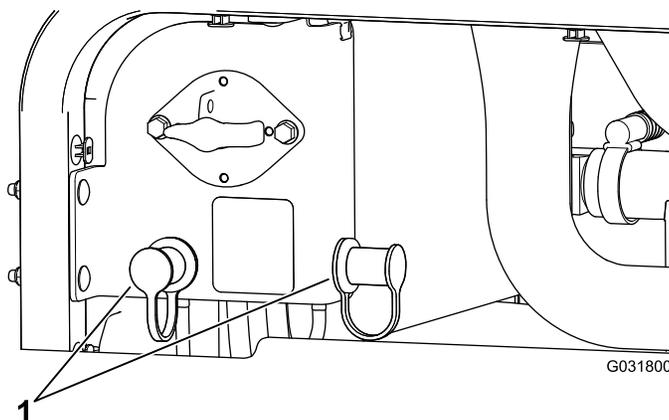

Figure 114
3. Remove the covers from the jump posts (Figure 114).
- Remove the covers from the jump posts (Figure 114).